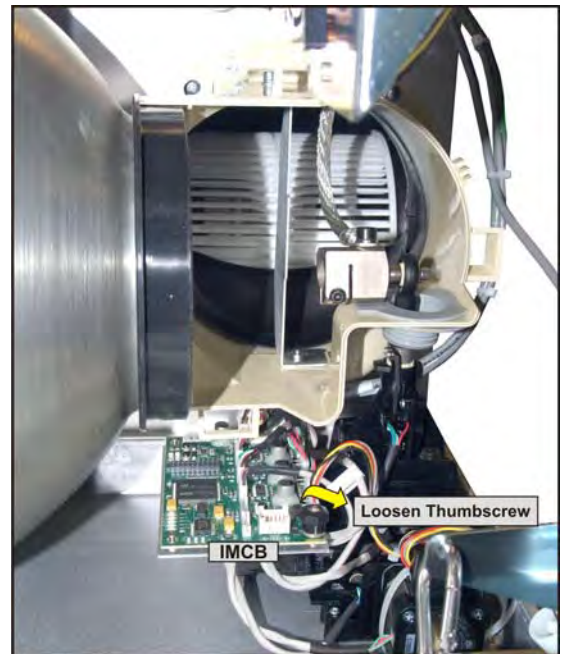

Figure 5-42 Remove IMCB
4. Loosen the thumbscrew securing the IMCB. **(Figure 5-42)**